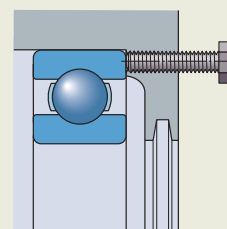

Fig. 10
- oil supply ducts and distribution grooves in the shaft to enable the oil injection method to be used (fig. 10)